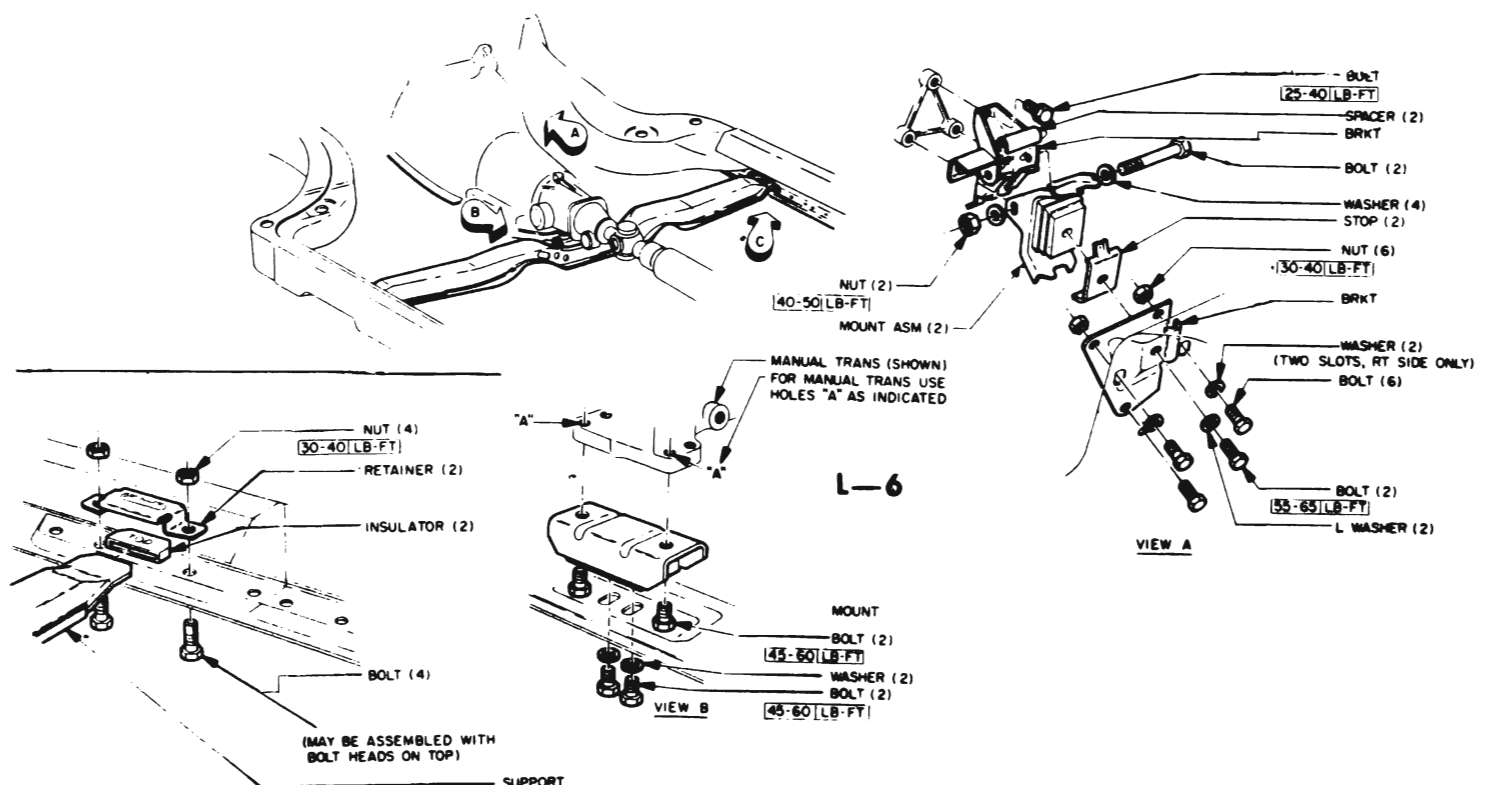

Figure 60-157 - Engine and Transmission Mounting Details
2. Remove nuts, washers, and engine mount through bolts. See Figure 60-157.
1. Install mount to frame bracket and torque to specification. See Figure 60-157.
For details of engine and transmission mounts and transmission support installation refer to Figure 60-157.